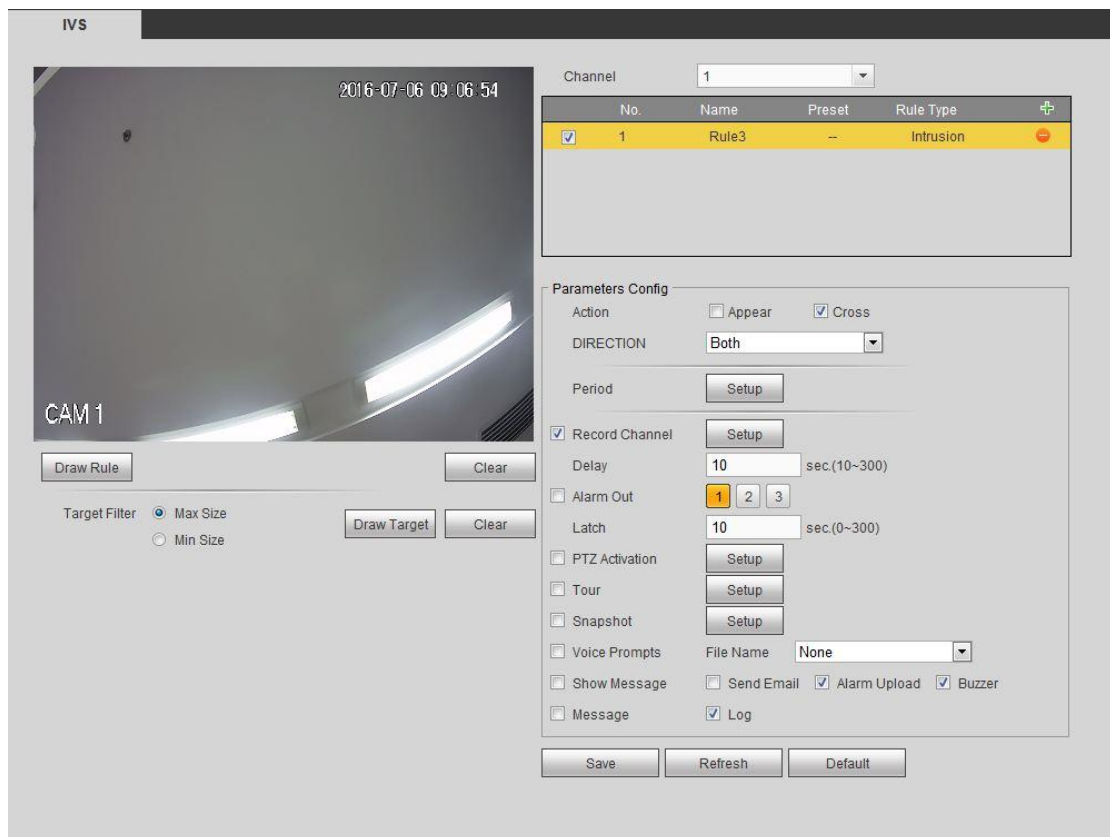

Figure 5- 80
Step 2 Check the box to enable Intrusion function. See Figure 5- 80.
Step 3 Click Draw rule button and then left click mouse to draw an intrusion rule. Right click mouse to complete. See Figure 5- 81.